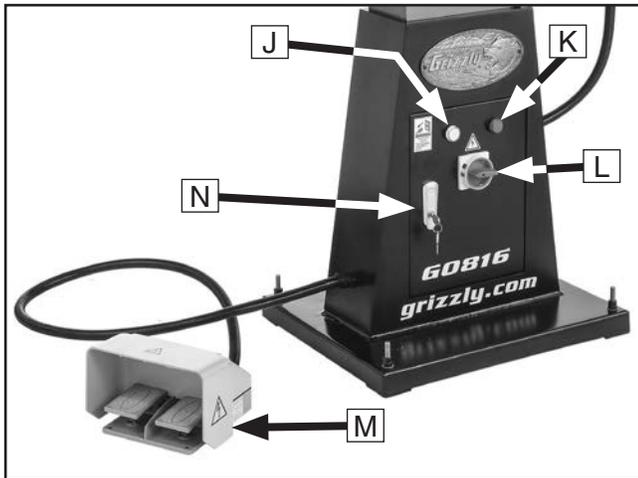

Figure 2. Power controls.
- L. Master Power Switch:** Toggles incoming power **ON** or **OFF**. Vertical position (see **Figure 2**) toggles incoming power **ON**. Horizontal position toggles incoming power **OFF**.